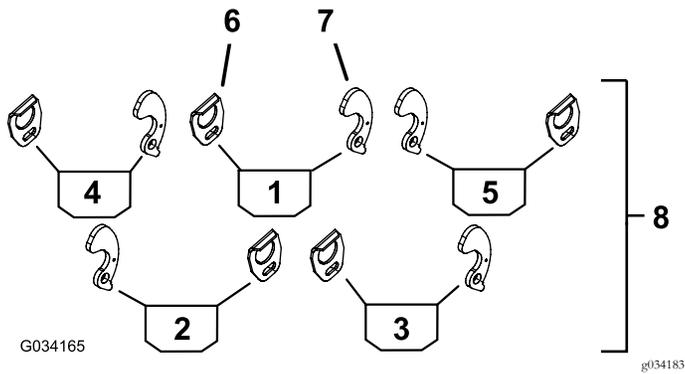
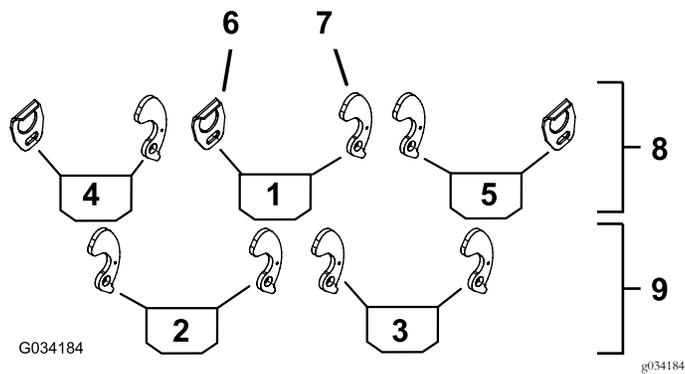
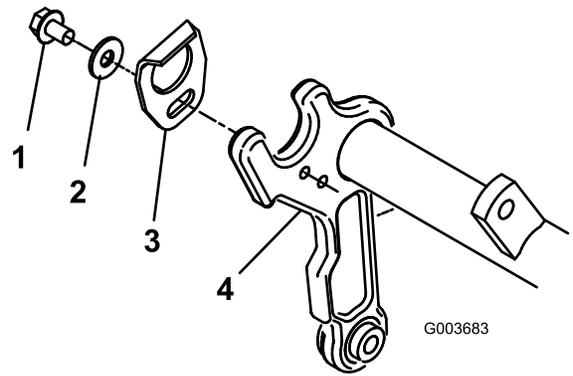

Figure 3
Figure 4
Figure 5
2. Use Figure 3 or Figure 4 to determine the locations where the basket guides (red) or basket brackets (black) must be mounted to the carrier frames.
Note: Figure 3 applies to Reelmaster 5210/5410/5510/5610 series. Figure 4 applies to Reelmaster 3550 Series and 5010-H series.
- Mount a basket guide to the appropriate side of each carrier frame (Figure 3) with a bolt (5/16 x 1/2 inch) and a flat washer (3/8 x 7/8 inch). Position the components as shown in Figure 5.